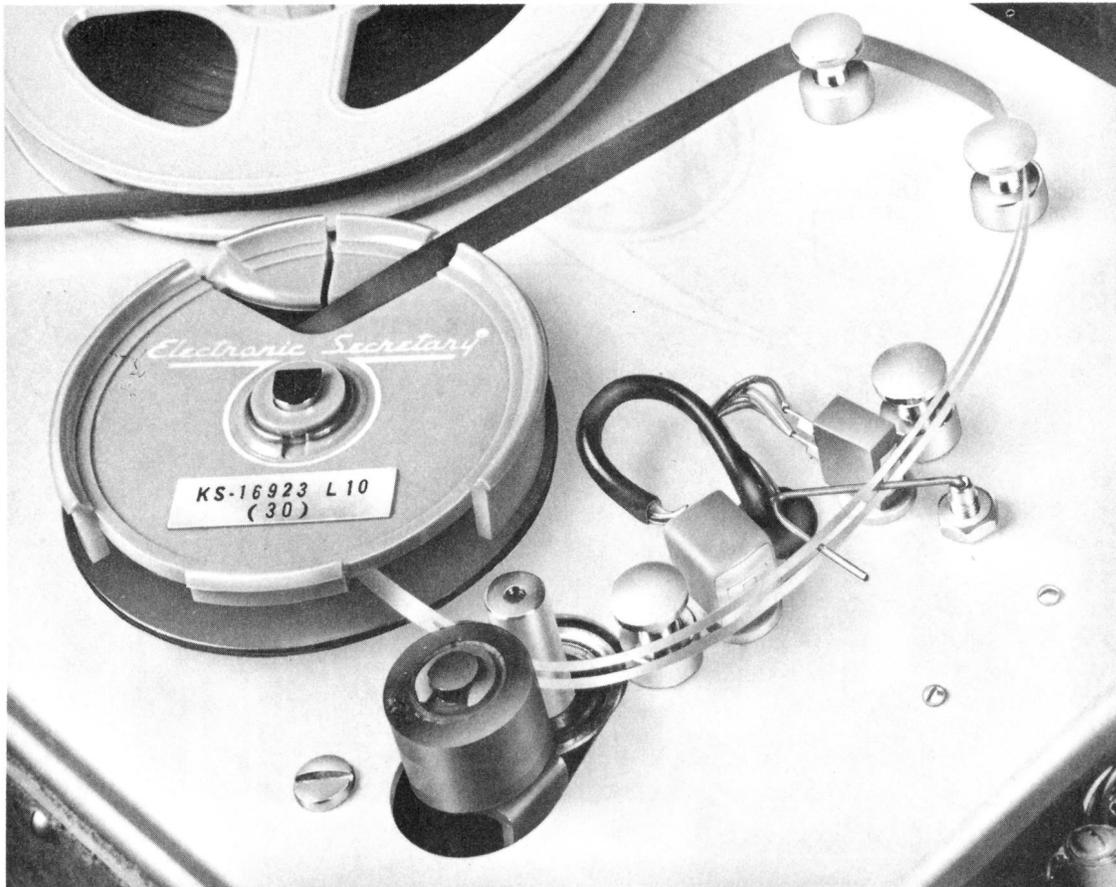

Fig. 4—KS-16923, List 10 Announcement Cartridge
- (1) Place announcement cartridge in its hub.
- (2) Pull tape from center of cartridge. Pull only enough tape to thread properly.
- (3) Make sure the tape rides in the groove of guides and that actuator assembly lever rides on top and center of tape.
- (4) Actuator assembly lever shall drop into slot in tape to stop announce motor when the tape is indexed.
- (5) Follow path of tape as shown in Fig. 4.